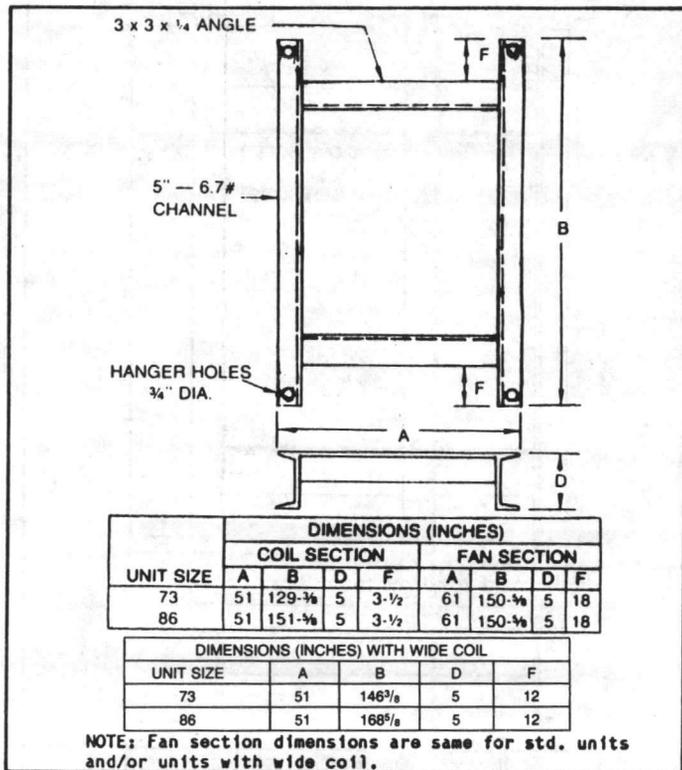

FIGURE 13 - Ceiling Suspension Mounting Frame and Dimensions for Unit Sizes 73 and 86 (Two Frames are Required for Each Unit)
Note: Because of their weight, unit sizes 3-31 (wide coil only) and 35-86 (wide coil and standard units) require suspension support frames, to be provided by the installer. Figures 11A, 12 and 13 give the configuration and dimension of these frames. Note that two frames are required for sizes 73 and 86. See Figure 13.
7. Horizontal Unit Sizes 73-86 — Set the coil and fan section on each of the prepared support frame. See Figure 13. Attach the splash guard and fasten the flexible connector to the fan section. See Figure 8. Panel removal may be necessary to attach splash guard.